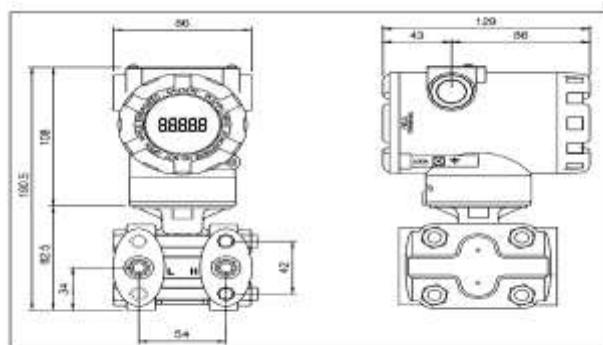

Figure 1-1 Smart Transmitter Size (Unit: mm)
- **Smart Transmitters Size shown as Figure 1-1:**